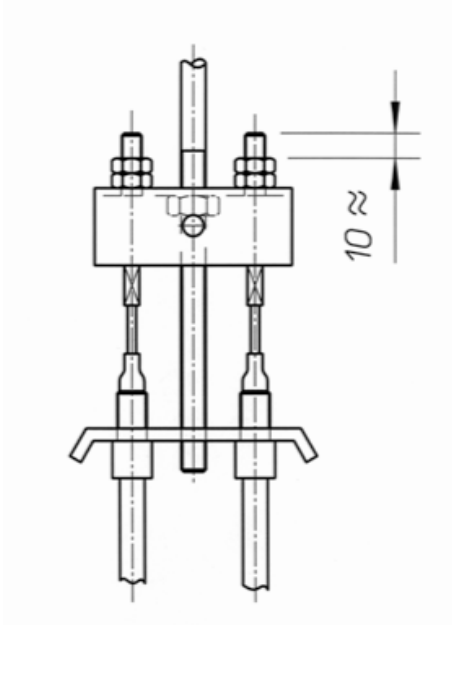

Figure 4.4 : Cross bar fitting
- ❶ After fitting the wheels on the axle, turn the wheels in the FORWARD direction (on all RA 2 type brakes, check that the adjustment screw 8 reaches the "FORWARD" stop on the brake backing plate).
- ❷ Adjust the brake setting using screw 8, with the cables not connected to the cross bar(s). The shoes should rub the drum slightly.
- ❸ Connect the brake cables to the cross bars(s) and tighten the nuts and lock nuts, leaving the end of the threaded end protruding by around 10 mm (Fig. 4.4).